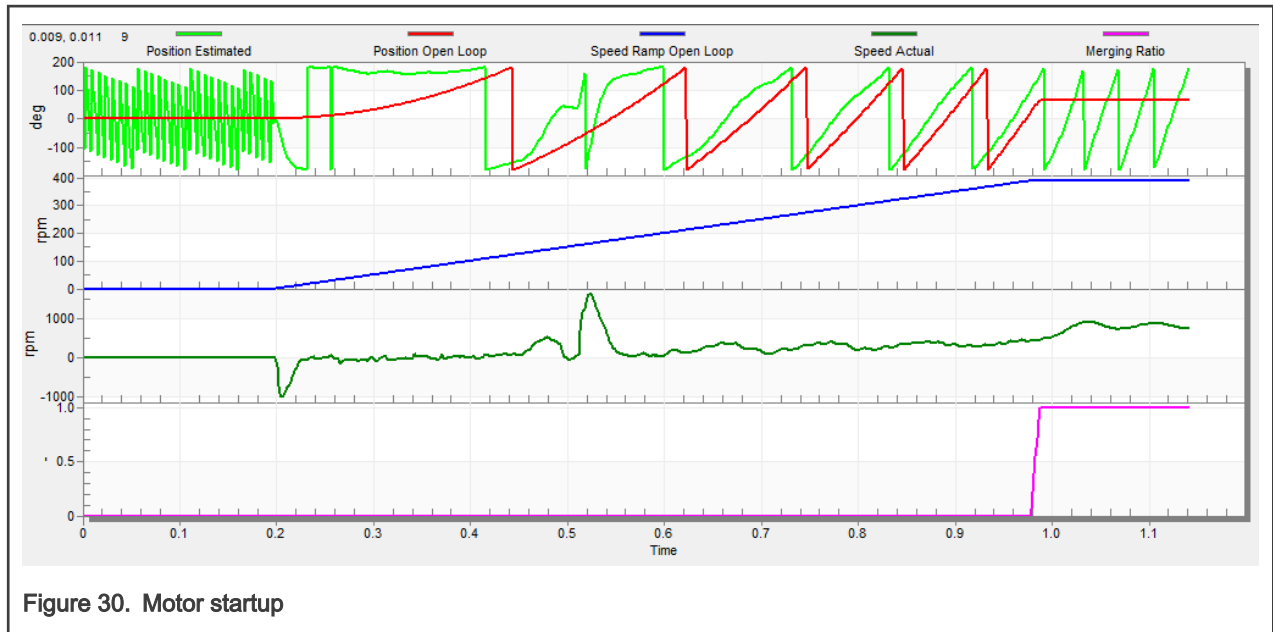

Figure 30. Motor startup
1. The start-up process can be tuned by a set of parameters located in the “Sensorless” tab. Two of them (ramp increment and current) are accessible in both tuning modes. The start-up tuning can be processed in all control modes besides the scalar control. Setting the optimal values results in a proper motor startup. An example start-up state of low-dynamic drives (fans, pumps) is shown in Figure 30.